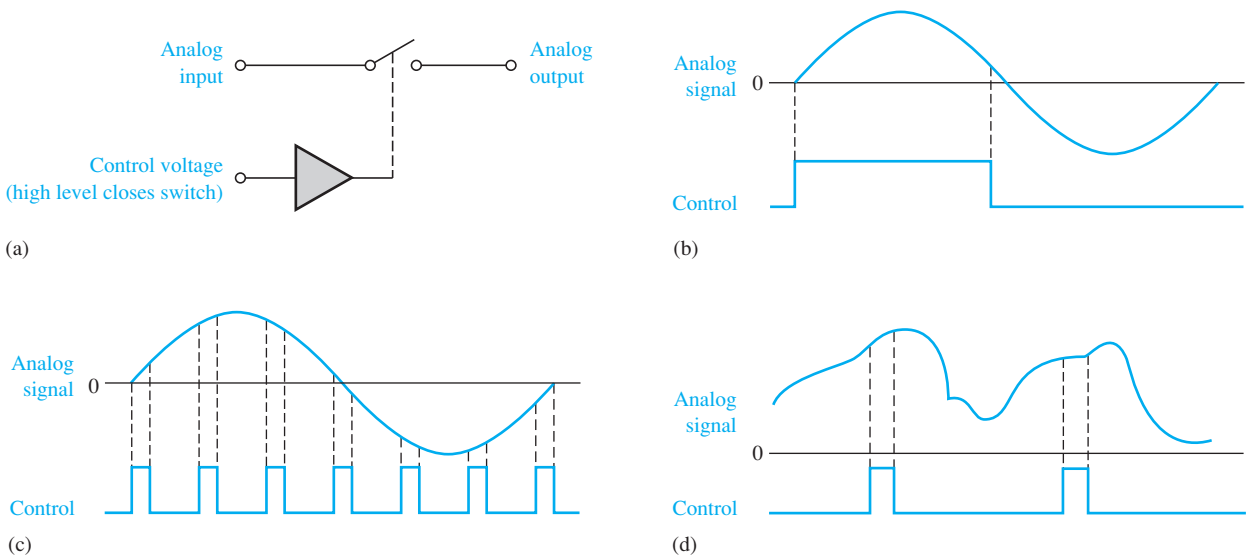

FIGURE 14–59
Refer to Figure 14–69.
1. Determine the output waveform for the analog switch in Figure 14–59(a) for each set of waveforms in parts (b), (c), and (d).